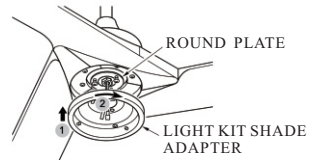

FIG.12
2. Gently pull the light kit wires through light kit shade adapter. Install light kit shade adapter to round plate on bottom of fan using the 3 screws in round plate. (see Fig. 12,13,14)